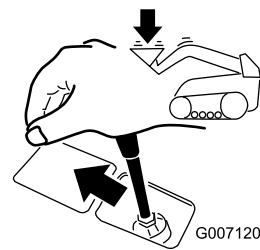

Figure 25
2. Lower the loader arm (Figure 25).